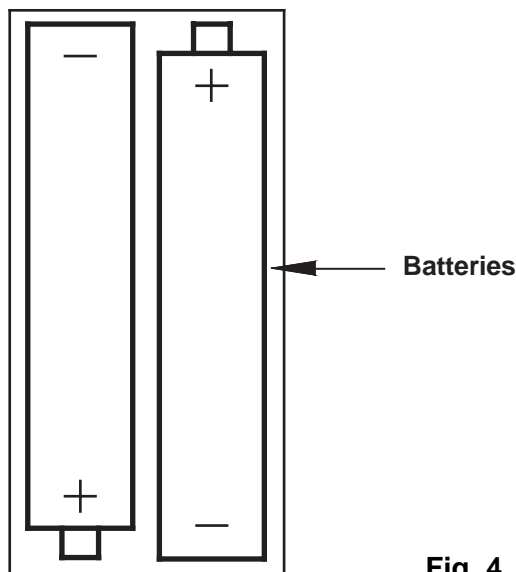

Fig. 4
2. Install the AAA batteries into the remote control (see **Fig. 4**).